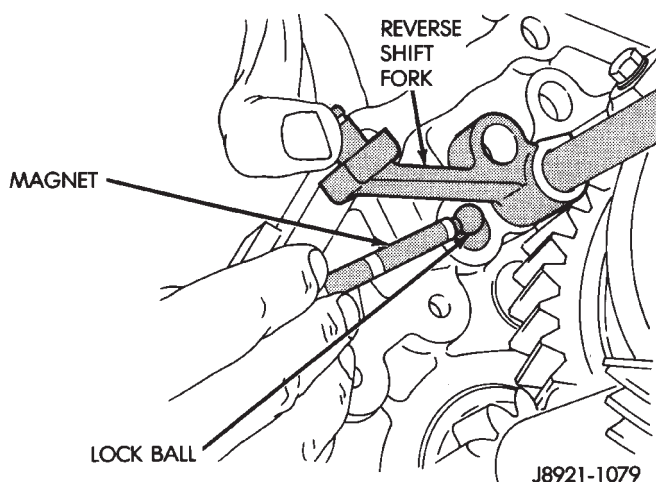

Fig. 49 Fifth Gear Shift Rail Lock Ball Removal
(9) Lift reverse shift fork upward and remove fifth gear shift rail lock ball (Fig. 49).